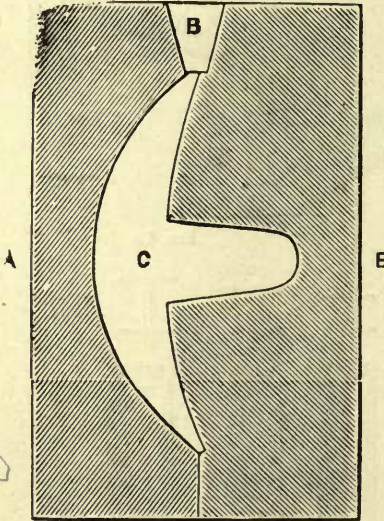
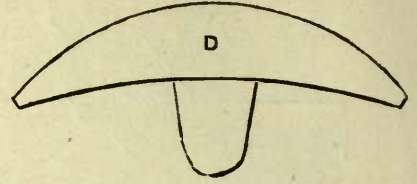

FIG. 24.
FIG. 25.
**Fire-pot or Devil.**—This is made of various sizes, according to the class of work. For ordinary use it may be constructed of  $\frac{1}{2}$ in. sheet iron, about 10in. round and 10in. deep, with a grate in the bottom, the bars of which do not exceed  $\frac{1}{2}$ in. apart. The fire-pot should stand upon three legs 1ft. long, and should have two or three 2in. holes in the sides for the irons, and an arched piece of iron over the top to hang the pot upon. Various kinds of plumbers' stoves are in the market, but none to equal the old-fashioned shaped "Devil." A sieve of  $\frac{1}{4}$ in. mesh and a shovel should be in the shop for the sand-work. The *lead clack mould*, for casting lead pump clacks, can be obtained at the lead merchant's. It is only an iron box in two halves, with the patterns or moulds of the clacks. [See Lead Clack Moulds, Fig. 24]. A set of *stocks and dies* [see my book on Hot Water and Gas Work] is indispensable in the plumber's shop. The best are the solid circular dies, which cut in quarter the time of others. A few *punches* for leather, of various sizes, are always handy for cutting washers. Of *gas tongs*, the old-fashioned are by far the best for work. The *tube cutter* should have three knives, as they are better for cutting out a length of iron pipe. For ordinary work take the two front wheels out and work with one. This plan is less likely to spoil the cutters.
These clacks are cast in a two-sided mould [see Figs. 24, 25, 26]. C is the clack; rivet is the part which holds the clack upon the leather. The method of casting these clacks
will be readily seen by reference to Fig. 24. E and E are the two sides of the clack mould placed together, having a clack cast therein. To cast this clack, make the mould hot, and place the sides as shown. Pour in the lead, and as soon as it is set turn the clack out, and fill up the mould again and again, until you have the required quantity. Having shown you the clack mould, I will explain another method of casting the lead clack when you have no mould. Have a
pattern made of wood to the shape and size required, with a piece of wood nailed on to form a rivet. Press the pattern rivet-side downwards into some sand, and fill it up with lead. Here you get a good clack, with flat top, instead of rounded [as shown at Fig. 24]. These clacks are the best for
drawing the sucker, as will be hereafter explained. Fig. 25 is a full-sized elevation of the clack cast in the mould, Fig. 24.